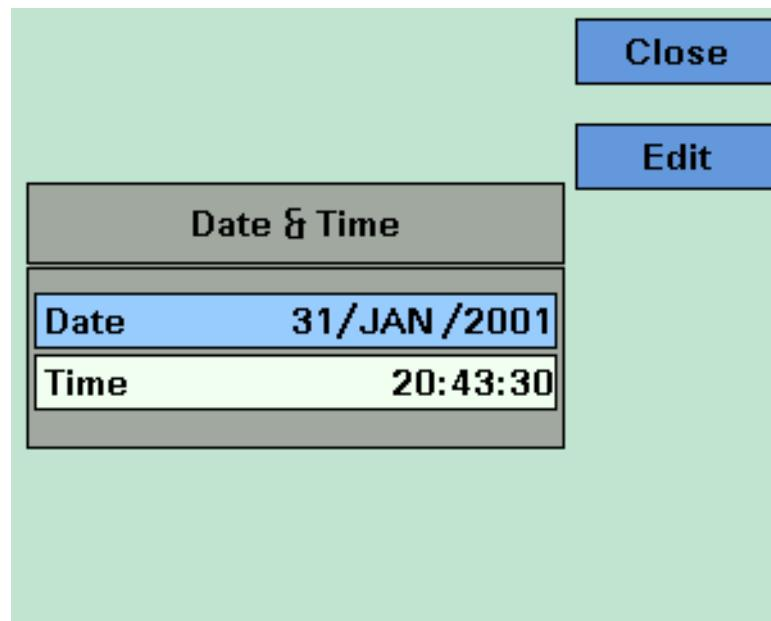

Figure 29 Editing the Date and the Time
- 2 Move to the <*Date & Time*> menu option and press *Enter*. You see a box, similar to Figure 29 , displaying the current date and time settings.